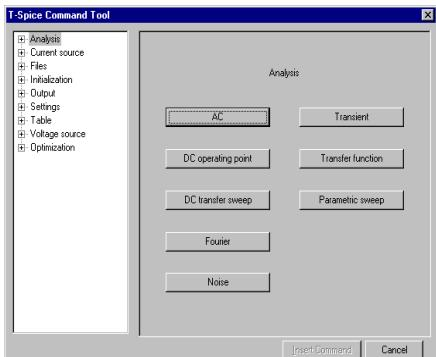

Figure 7: **T-Spice Command Tool** dialog
- Click the work area to invoke the **T-Spice Command Tool** dialog (Figure 7).